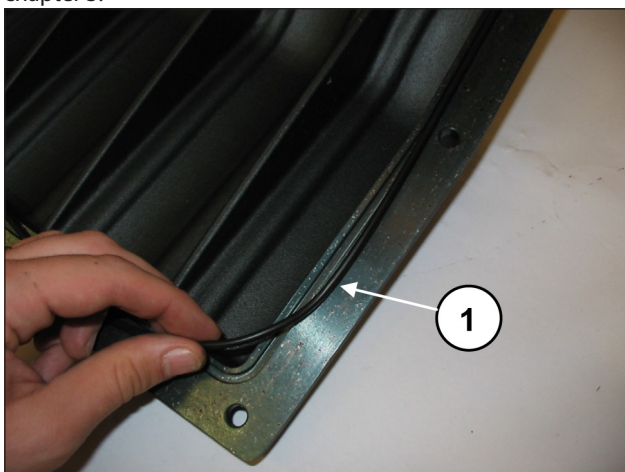
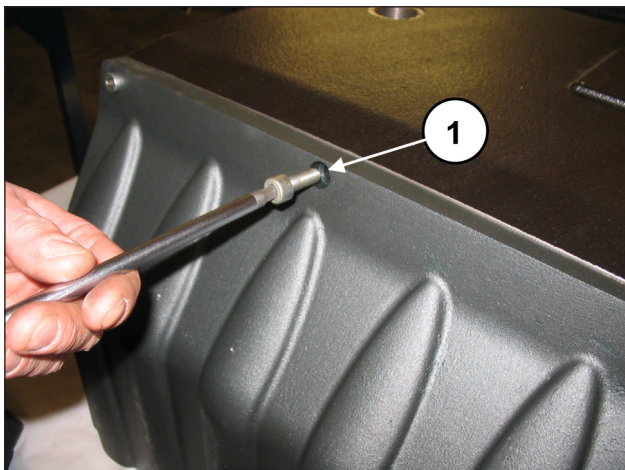

Fig. 91
Fig. 92
Insert the O-ring on the rear cover (pos. ①, Fig. 91) and fasten it to the casing with 10 x M8x20 screws (pos. ①, Fig. 92). Calibrate the screws with a torque wrench as indicated in chapter 3.